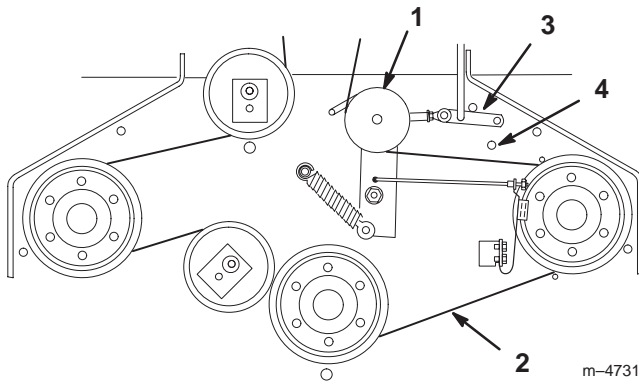
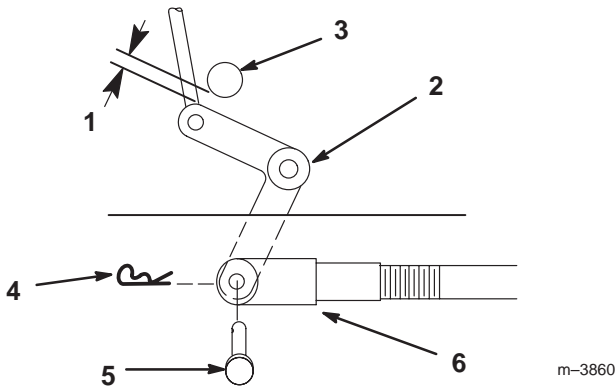

Figure 48
Figure 49
4. Remove mower belt (Fig. 48).
8. Install the mower belt (Fig. 48).
4. Remove idler pulley and then remove worn belt (Fig. 48).
Note: Proper belt tension is 10–15 lbf. (44–67 N) with the belt deflected a 1/2 inch (13mm) halfway between pulleys (Fig. 48).
- Engage PTO lever and check the clearance between the bellcrank and the transmission output shaft (Fig. 49). Space should be 1/16–1/8 inch (2 mm–3 mm).
- Remove hairpin cotter and clevis pin from bellcrank. Rotate clevis clockwise on rod to increase or counterclockwise to decrease clearance (Fig. 49).
- Disengage the PTO. If the assist arm does not contact the front stop on the mower deck (Fig. 48), readjust the clevis to bring the bellcrank closer to the transmission output shaft (Fig. 49).